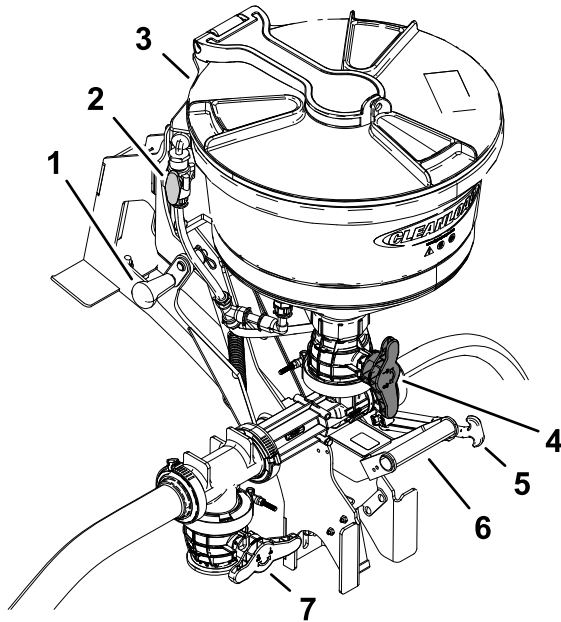

Figure 41
5. Open the hopper valve (red knob) located on the bottom of the hopper (Figure 41).
1. Use the lower handle to lower the eductor (Figure 41).
2. Open the lid to check for foreign objects which may hinder performance or contaminate the system (Figure 41).
2. Open the hopper valve (Figure 41).
- B. Open the flush valve and rinse the hopper of the eductor for 20 seconds (Figure 41).
- C. Close the flush valve (Figure 41).
6. Raise the eductor and secure it with the transport strap (Figure 41).
7. Close the eductor shutoff valve and the hopper valve (Figure 41).
3. Close and lock the hopper lid by turning the cover clockwise (Figure 41).
6. Return the eductor to the transport position, and secure it with the transport strap (Figure 41).